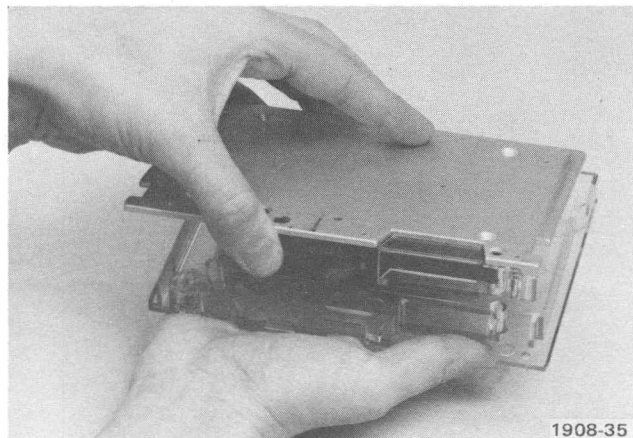

Fig. 3-15. Assembling the tape cartridge.
6. Make certain that the Write-Protect cylinder is in position, with the spring washer between the cylinder and the metal cartridge base. Turn the cartridge base over, and carefully position it into the plastic case, making certain to fit the Write-Protect cylinder through the opening in the plastic case. Be careful not to catch and wrinkle the tape with the plastic case (Fig. 3-15).